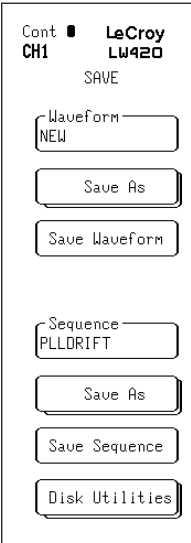

Figure 2.8
- 1. Push **SAVE** button on the front panel—the menu shown in figure 2.8 is displayed.